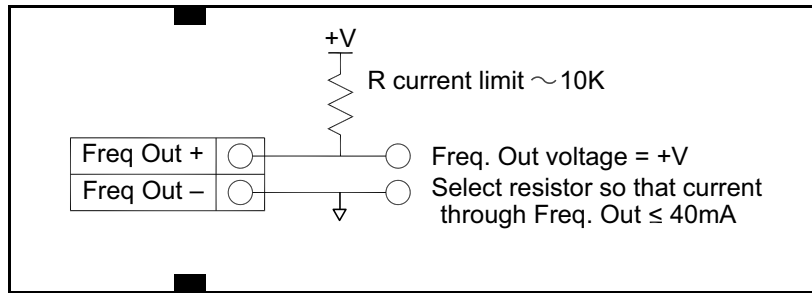

Figure 39: Isolated Frequency Output Using External Power Supply
- For AC or DC powered meters, use a separate 5 to 36 VDC power supply (see *Figure 39* on page 43). Use this option if a specific voltage is needed for the frequency output.